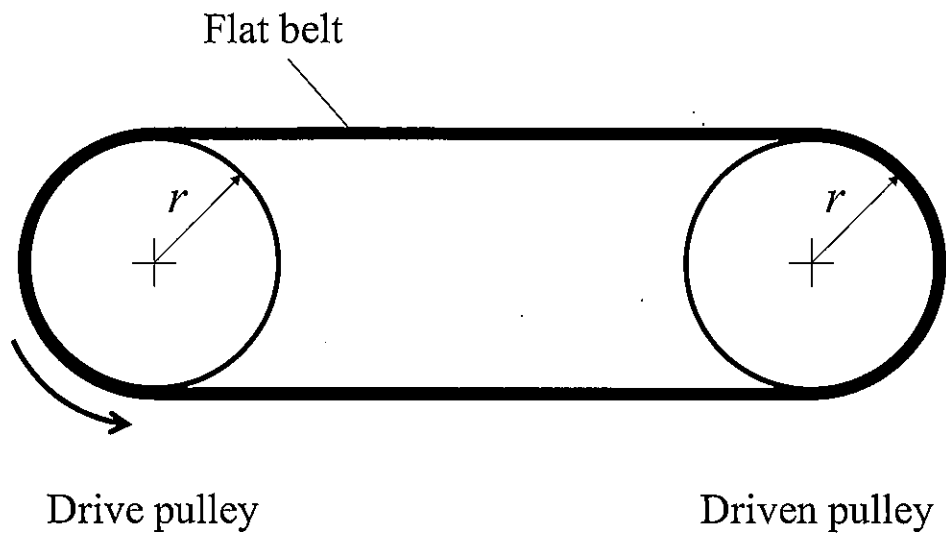

Figure 10-3
- (3) Next, consider a power transmission device in which a flat belt is wound around two pulleys without slipping as shown in Figure 10-3. Describe a method to estimate the friction coefficient μ_2 at the contact surface between the pulley and the flat belt by installing one torque meter and one load cell into this device. Let L_c be the load measured by the load cell and τ be the torque measured by the torque meter. The two pulleys are identical with the same radius r , and the belt winding angle is 180° . The mass of the belt is negligible.